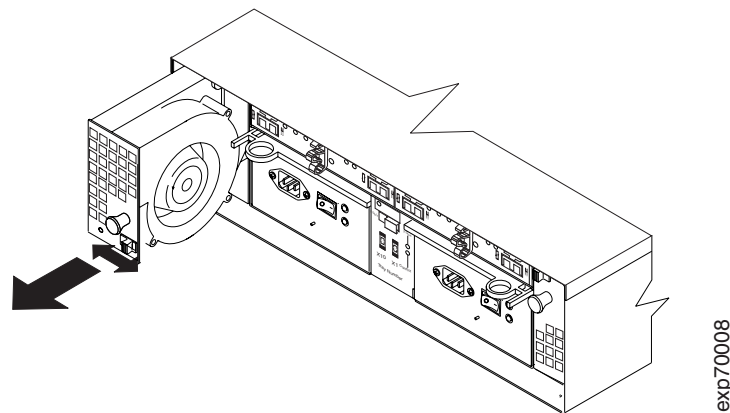

Figure 11. Removing a fan CRU
2. Grasp the handle and pull the fan unit out of the bay as shown in Figure 11.